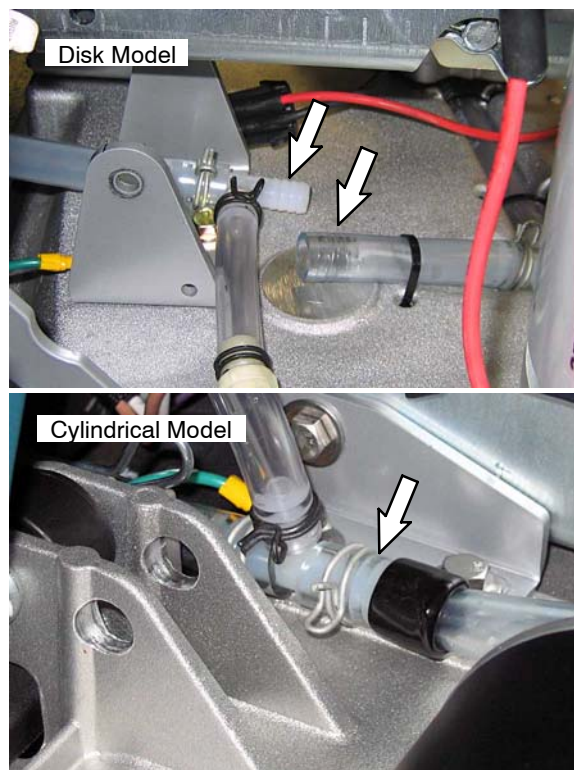

Fig. 3
3. Connect the solution hose from the scrub head assembly to the machine (Figure 3).